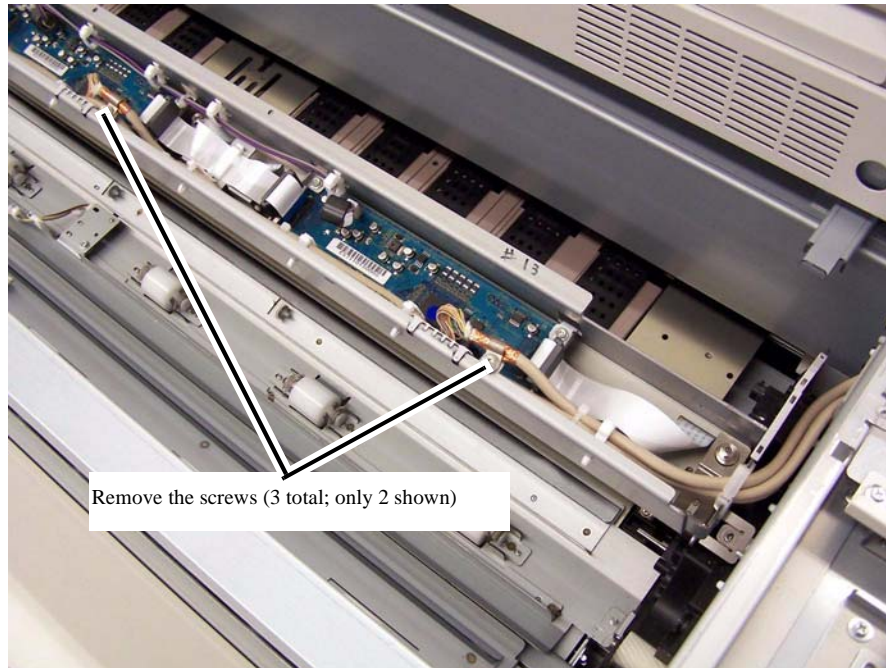

Figure 3 Removing the screws that secure the P-clamps to the LPH frame
- b. Remove the screws that secure the P-clamps (3) to the front of the LPH frame (Figure 3). Leave the P-clamps on the cables after removing the screws.